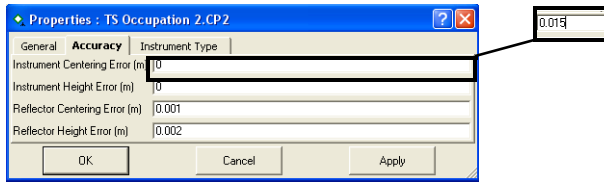

Figure 5-93. Accuracy Properties for TS Occupation
- On the *Accuracy* tab, type in the corresponding values for the error of centering instrument/reflector and for the error of the instrument's/reflector's height measurement (Figure 5-93).